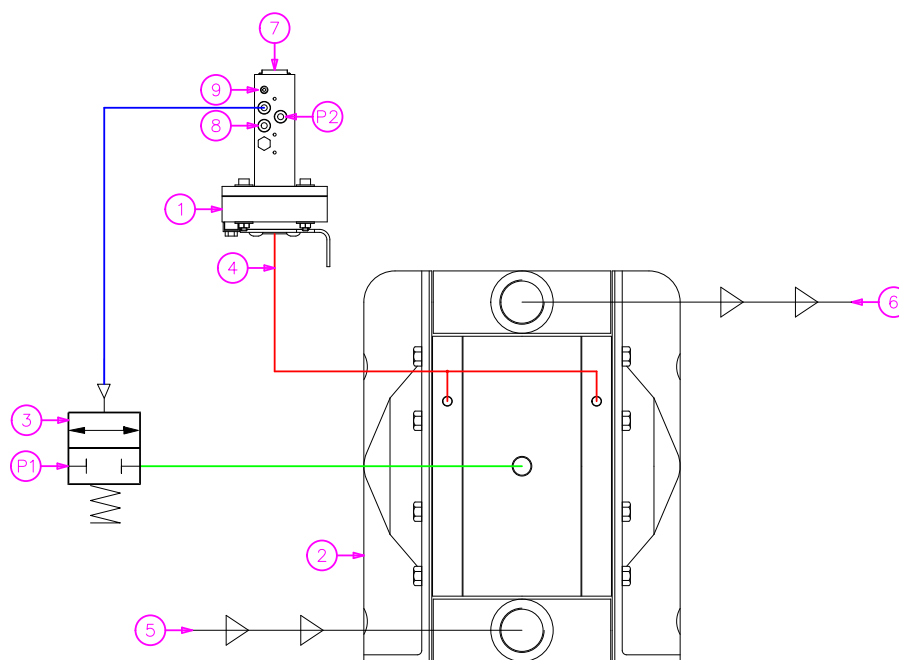

Fig. BARR-02. Barrier and stop installation circuit diagram
The Guardian should be installed as per Fig. BARR-02. The media connection can be directly connected with rigid pipe work using double ferrule compression fittings, or placed independently with a flexible hose between the pump and Guardian. Ensure the pipe work is appropriately selected for the media and is suitable for the maximum pressure under breach conditions. Ensure the Guardian does not cause any tensions or strain on the pump or mounting. The Guardian must have an air supply of at least 1 bar greater than the required set point.
- The void ports should be linked as shown in Fig. BARR-02 (4)